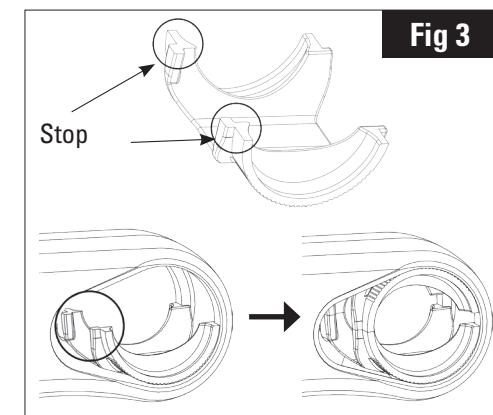

Fig 3
1 Insert one of the half-shells (11) horizontally into the stem body, then insert the second half-shell (the stops must be opposite each other and positioned forwards: Fig. 3).